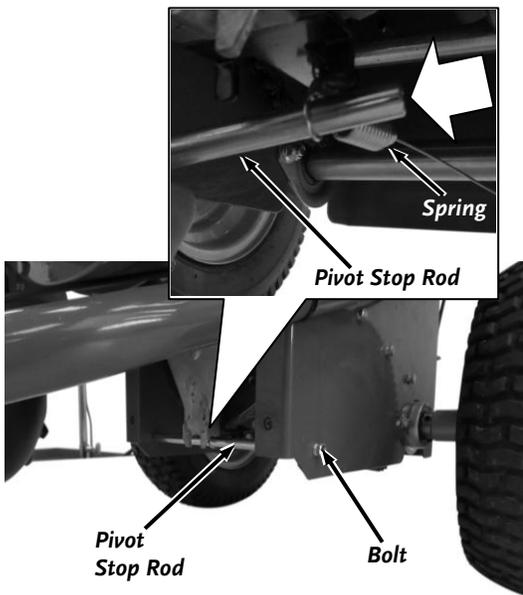

Figure 16
3. Remove the two Bolts that secure the Pivot Stop Rod using a 10mm Wrench and slide the Rod out of the Spring end as you remove the Rod (**Figure 16**).
5. Install the Pivot Stop Rod (**Figure 16**) ensuring that the Rod goes through the Spring at the bottom of the Drive Pulley Assembly and the Rod is between the Tabs (**Figure 26**).